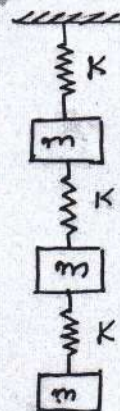

Fig.Q7(b)
- b. Use Stodola method to find the fundamental mode of vibration of the system shown in Fig.Q7(b). Given $m = 2$, $k = 20$.